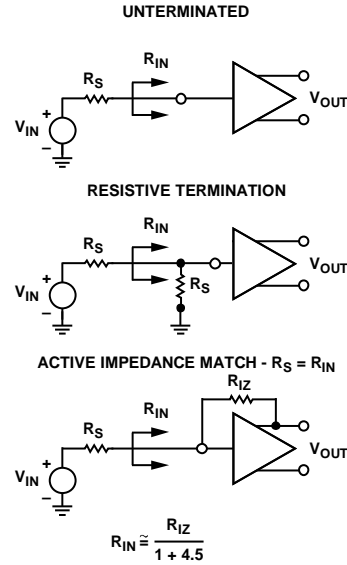
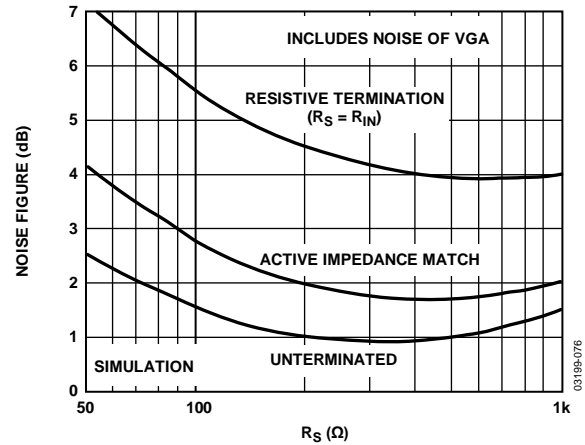
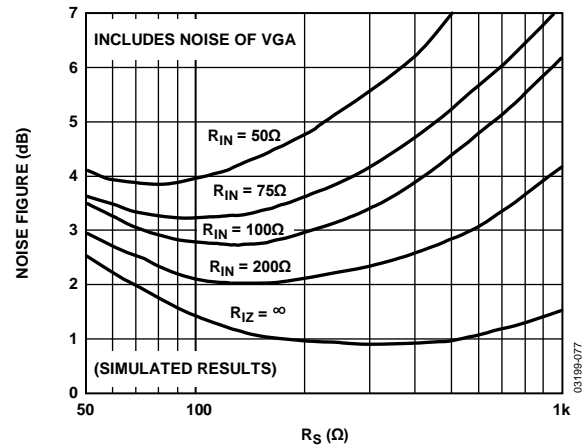

Figure 75. Input Configurations
Figure 76. Noise Figure vs. R_S for Resistive, Active Match, and Unterminated Inputs
Figure 77. Noise Figure vs. R_S for Various Fixed Values of R_{IN} , Actively Matched
The input-referred voltage noise sets an important limit on system performance. The short-circuit input voltage noise of the LNA is 0.74 nV/√Hz or 0.82 nV/√Hz (at maximum gain), including the VGA noise. The open circuit, current noise is 2.5 pA/√Hz. These measurements, taken without a feedback resistor, provide the basis for calculating the input noise and noise figure performance of the configurations in Figure 75. Figure 76 and Figure 77 show simulations extracted from these results and the 4.1 dB noise figure (NF) measurement with the input actively matched to a 50 Ω source. Unterminated ($R_{IZ} = \infty$) operation exhibits the lowest equivalent input noise and noise figure. Figure 76 shows the noise figure vs. source resistance, rising at low R_S , where the LNA voltage noise is large compared to the source noise, and again at high R_S due to current noise. The VGA input-referred voltage noise of 2.7 nV/√Hz is included in all of the curves.
The primary purpose of input impedance matching is to improve the system transient response. With resistive termination, the input noise increases due to the thermal noise of the matching resistor and the increased contribution of the LNA input voltage noise generator. With active impedance matching, however, the contributions of both are smaller than they would be for resistive termination by a factor of $1/(1 + \text{LNA Gain})$. Figure 76 shows their relative NF performance. In this graph, the input impedance is swept with R_S to preserve the match at each point. The noise figures for a source impedance of $50\ \Omega$ are 7.1 dB, 4.1 dB, and 2.5 dB, respectively, for the resistive, active, and unterminated configurations. The noise figures for $200\ \Omega$ are 4.6 dB, 2.0 dB, and 1.0 dB, respectively.
Figure 77 is a plot of NF vs. R_S for various values of R_{IN} , which is helpful for design purposes. The plateau in the NF for actively matched inputs mitigates source impedance variations. For comparison purposes, a preamp with a gain of 19 dB and noise spectral density of $1.0\ \text{nV}/\sqrt{\text{Hz}}$, combined with a VGA with $3.75\ \text{nV}/\sqrt{\text{Hz}}$, yields a noise figure degradation of approximately 1.5 dB (for most input impedances), significantly worse than the AD8331/AD8332/AD8334 performance.